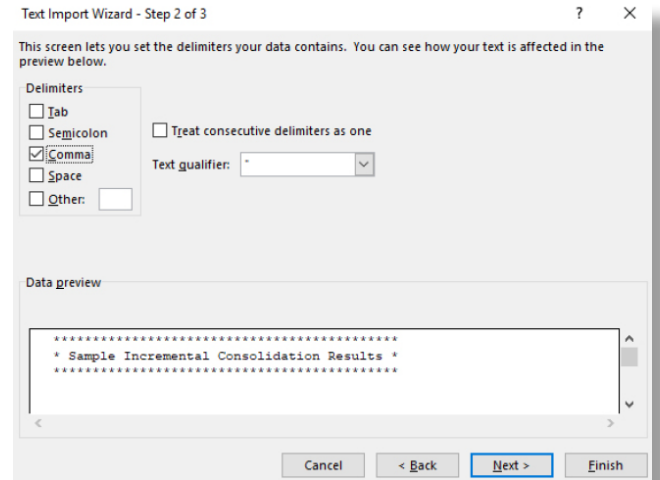

Figure 15: Text Import Wizard Step 2-3
5. Uncheck the box labeled **Tab** (Figure 15) and select the box labeled **Comma**. Select **Next** then **Finish**.